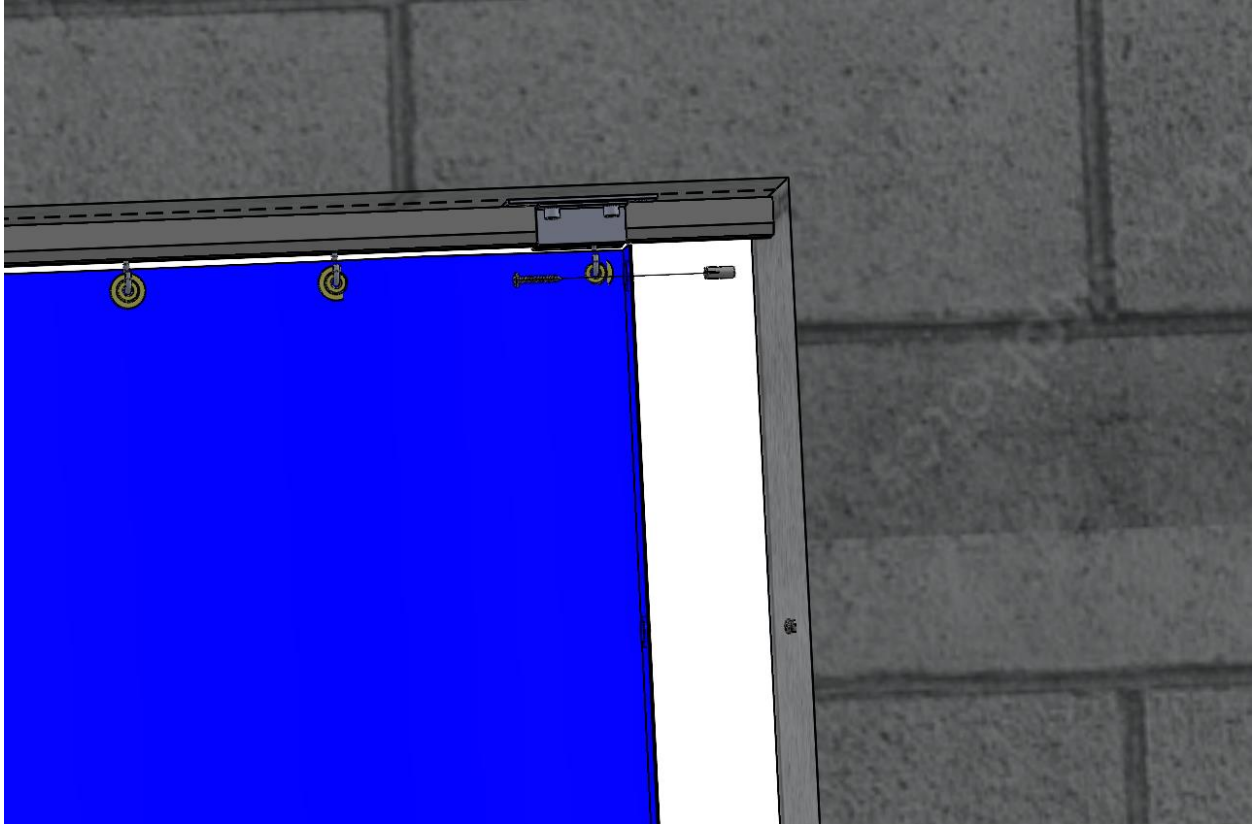

Figure 6 Anchor, Fold and Fasten Curtain to Wall
2. When there are no more Cam Locks to install in that side of the Curtain “Run”, fold and fasten the free end of the Curtain to the wall through the Grommets in the Curtain. Screws and anchors are provided. (Figure 6 Anchor, Fold and Fasten Curtain to Wall)